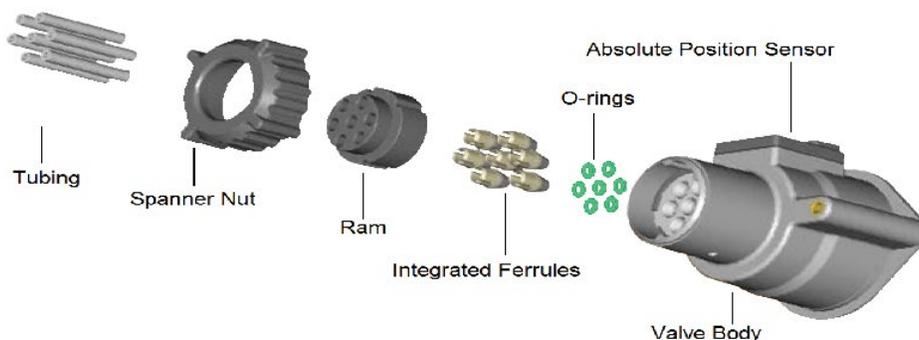

Figure 3.7. Exploded Diagram of the 10-Port Valve
1. Loosen the spanner nut (shown in Figure 3.7), but do not fully unscrew it.